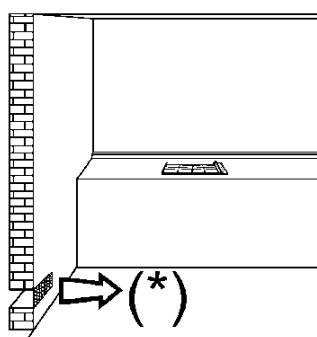
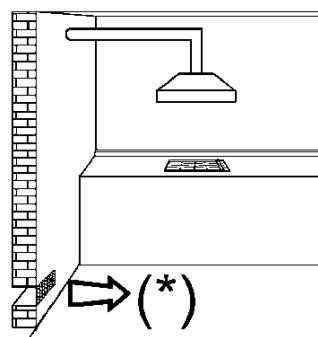
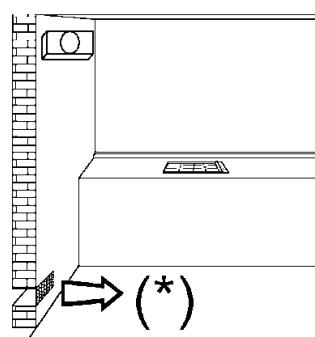

FIG. 3
FIG. 4
FIG. 5
• Use of a gas cooking appliance produces heat and moisture in the room in which it is installed. The room must therefore be well ventilation by keeping the natural air vents clear (see fig. 3) and by activating the mechanical aeration device (suction hood or electric fan fig. 4 and fig. 5).